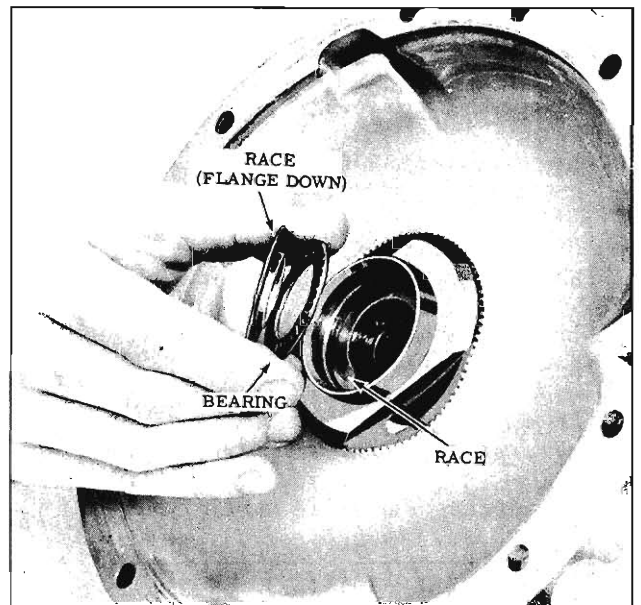

Fig. 6-112 Installing Bearing and Races
13. Install bearing into flanged race, coat with petrolatum and install into torus cover with flanged side down. (Fig. 6-112)